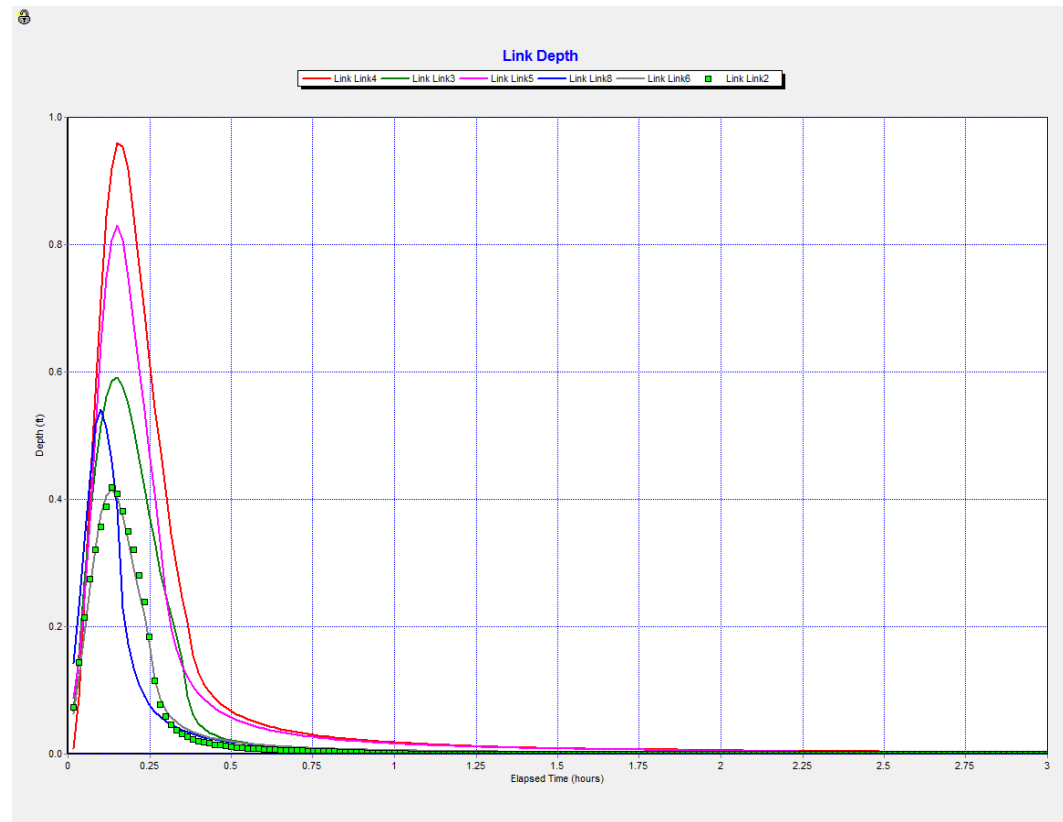

Figure 9-2: Plot of Depth vs. Time for several links in the model.
7. The plot should look similar to Figure 9-2